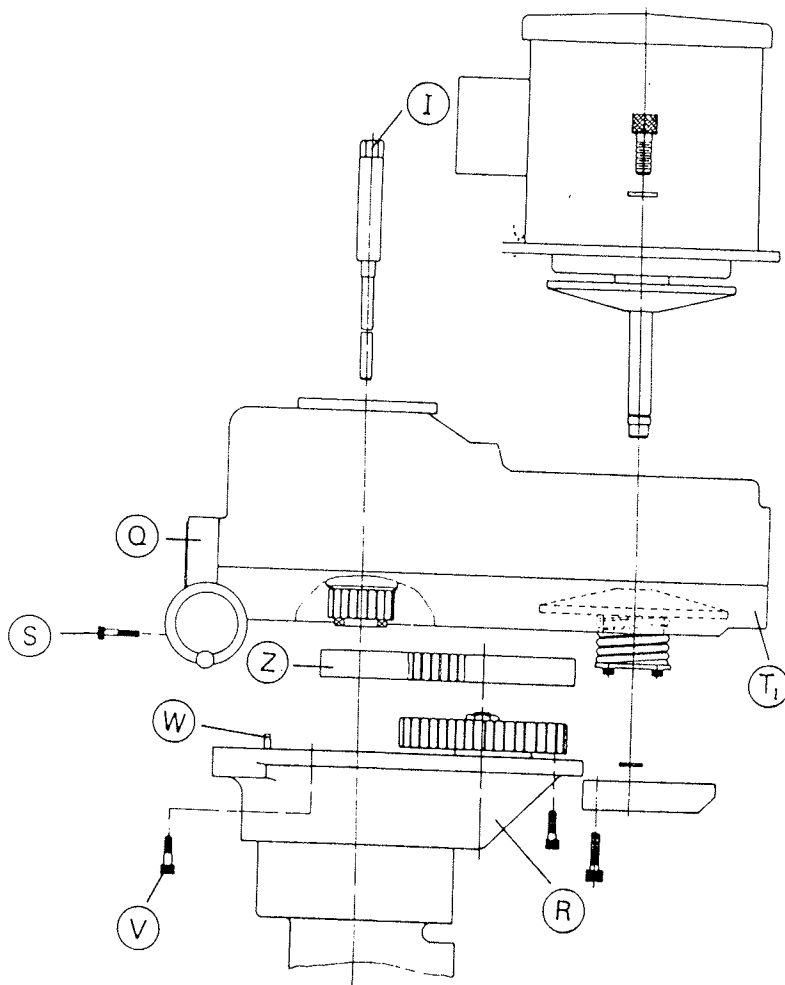

Figure 28
- b. Remove the four bolts "V" (Fig. 28) so housing "T1" can be removed. It may be necessary to use a soft mallet. (Housings "T1" and "R" are pinned together).
- b. Change the timing belt as shown in Fig. 28